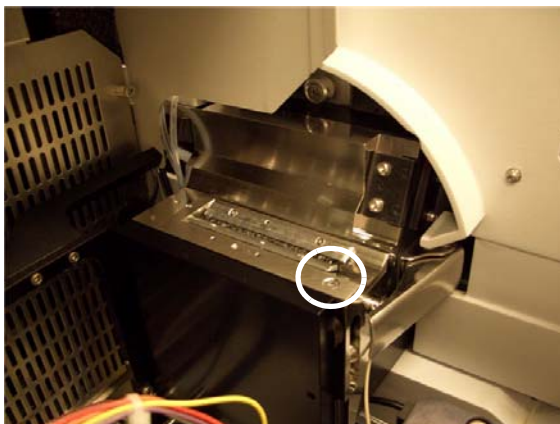

Figure 2 HPLC-Chip Cube interface assembly showing the location of the mounting screw for the top plate.
- 3 Remove the mounting screw using a T10 Torx driver (Figure 2).